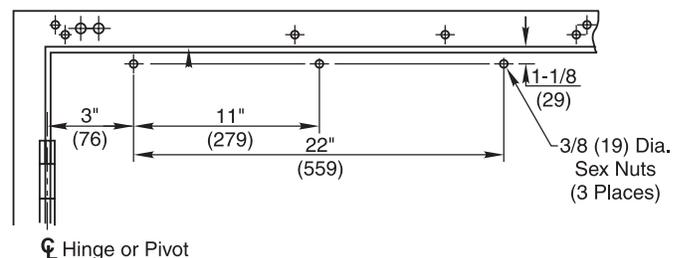

Figure 4 Right Hand Shown
1. Using template on page 19, locate and prepare holes in door for three (3) 3/8" (9.5mm) sex bolts (Figure 4)